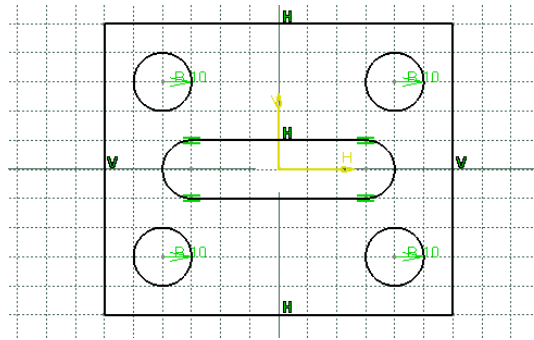

Figure 2-52 The final sketch
15. Similarly, draw the other two circles. The coordinates of the center point of the other two circles are -40, 30 and -40, -30, respectively. The final sketch with the display of constraints turned on is shown in Figure 2-52.